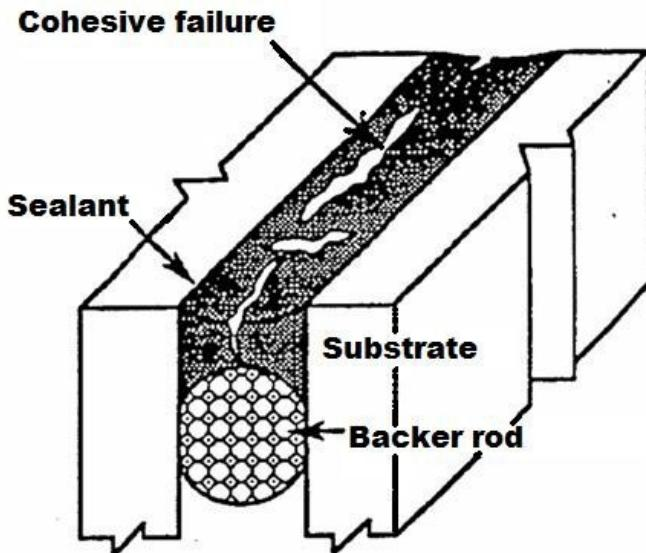

figure3
**Cohesion Failure** – Cohesive failure occurs when the sealant fails to hold together. Cohesive failure can take the form of splits and tears in both transverse and longitudinal directions (see Figure 3). General causes of cohesive failure would include improper sealant selection, poor mixing of multi-component sealants, or possible air entrapment in the caulking gun.